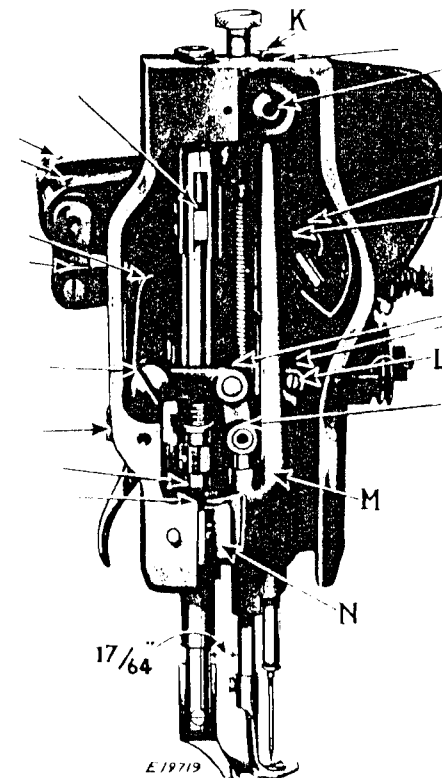
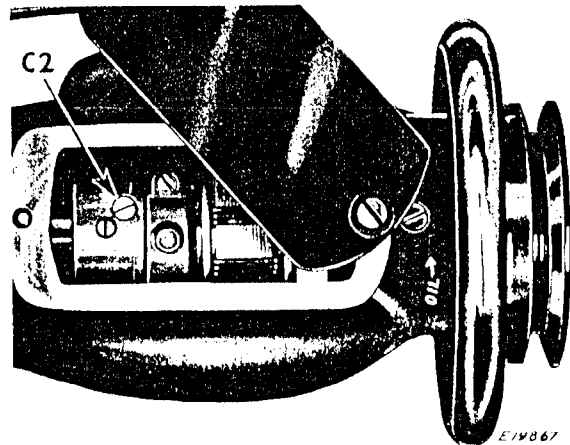
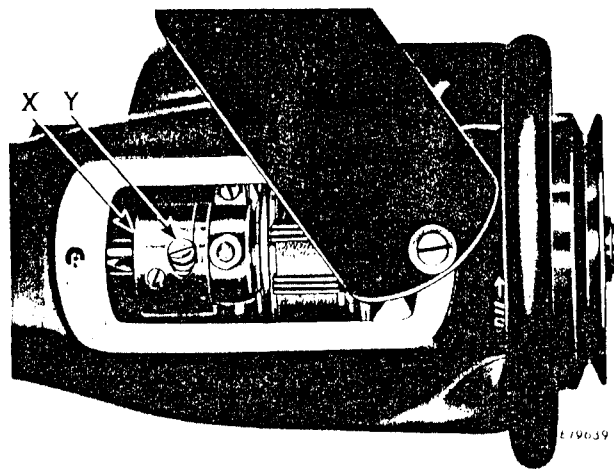

Fig. 5. End View of Machine, Showing Oiling Points
Fig. 19
Fig. 20
Loosen the thumb screw in the upper end of the face plate, turn up the face plate and oil the wick and places shown by arrows in Fig. 5, then turn down the face plate and tighten the thumb screw.
To change the length of stitch, open the arm cap, as shown in Fig. 19, loosen the set screw C2, Fig. 19 in the feed driving eccentric and turn the
balance wheel so that the adjusting screw Y, Fig. 20 is accessible. Turn the screw Y clockwise to shorten the stitch or counterclockwise to lengthen the stitch. When the desired length of stitch is obtained, tighten the set screw C2, Fig. 19.
If the needle bar is not correctly set, loosen the needle bar connecting stud pinch screw **L**, Fig. 5 and place the needle bar in the correct position as instructed above, then retighten the screw **L**.
**To Set a Needle Bar Which Has No Mark.** Set the feed eccentric **X**, Fig. 20 for 8 stitches to the inch, then set the needle bar so that when it rises  $\frac{3}{32}$  inch from its lowest position and the point of the hook is at the center of the needle, the needle eye will be about  $\frac{1}{16}$  inch below the hook point.
The needle bar frame **M**, Fig. 5 should be set so that a straight needle is centered in the needle hole in the feed dog (or slightly more toward the operator) throughout their feeding movement. It should also be set so that when the feed eccentric **X**, Fig. 20 is set for zero feeding movement, the distance between the vibrating presser bar and the lifting presser bar will be  $\frac{13}{64}$  inch, as shown in Fig. 5.
Set the feed eccentric **X**, Fig. 20 so that there is no feeding movement.